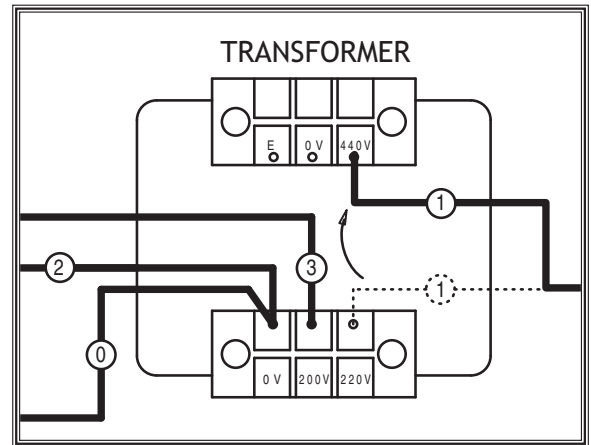

Figure 5. Rewiring transformer from 220V to 440V.
3. On the transformer, remove the wire connected to the 220V terminal for your model of sander, and connect it to the 440V terminal, as shown in **Figure 5** and in the illustrations on **Page 54**.